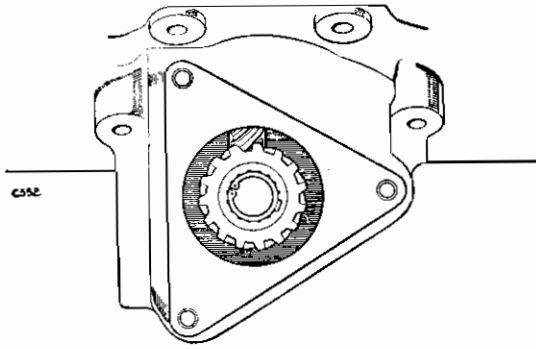

Fig. A-431—Driving gear in correct timing position
2. Insert the driving gear assembly for injection and oil pumps complete with split bushes, then mesh with camshaft gear so that when fully engaged, the master spline is approx. 20° from the centre line of engine (measured from front end) and the locating holes are correctly aligned. See Fig. A-431. Lock the driving gear assembly in position with a grub screw.